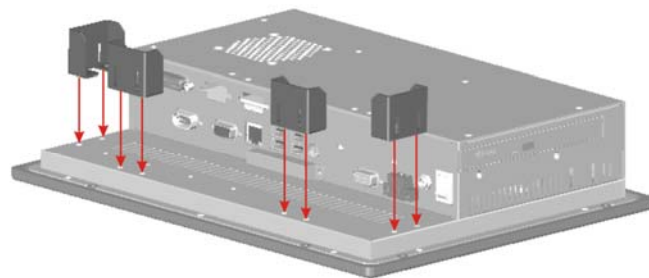

Figure 3-29: Panel Mounting Kit
Step 1: Install the panel mounting kit onto the real panel (**Figure 3-29**).